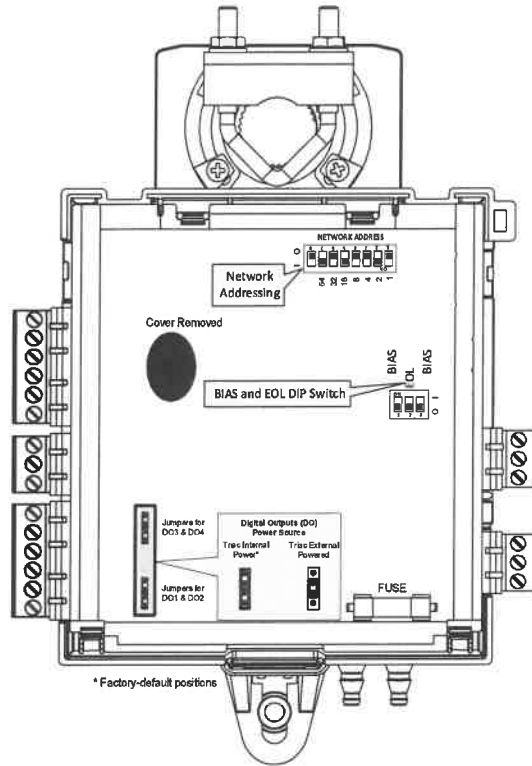

Figure 5: ECB-VAV (cover removed)
1. Configure the controller's DIP switches. See Figure 5.